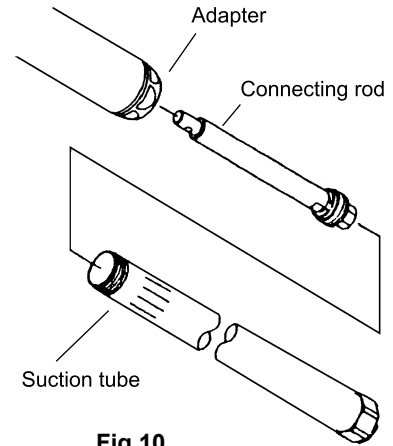

Fig.10
- 9) Pull out the connecting rod. (Fig.10)